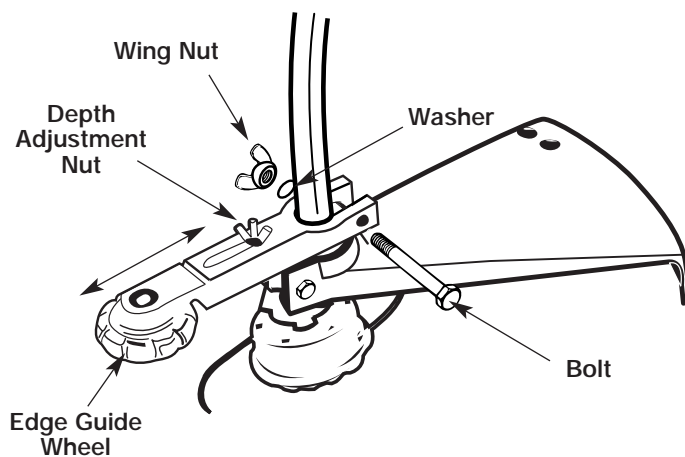

Fig. 4
1. Push edge guide wheel onto the shaft (Fig. 4). Some force may be required.
3. Adjust the edging depth by loosening the depth adjustment nut. Then move the guide wheel along the path shown by the arrows to the desired position (Fig. 4). Tighten securely.